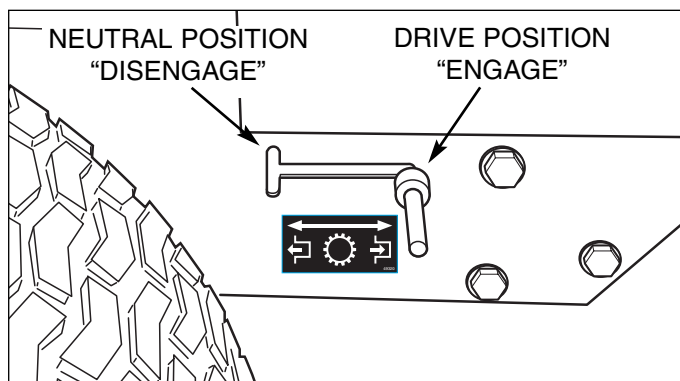

Figure 1. Hydraulic Release Rod
- Slide the hydraulic release rod forward and lock into the top of the "T" slot. See Figure 1.